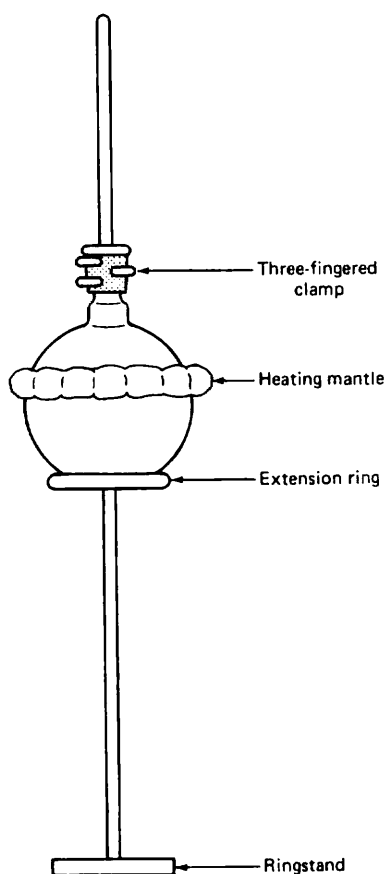

Fig. 90 Flask and heating mantle out on a ringstand.
2. Clamp the flask (around the neck) a few inches up the ringstand (Fig. 90). We *are* using heating mantles, and you'll need the room underneath to drop the mantle in case it gets too hot. That's why the flask is *clamped at the neck*. Yes. *That's where the flask is ALWAYS clamped, no matter what heat source*, so it doesn't fall when the mantle comes down. What holds the mantle? Extension ring and clamp fastener.